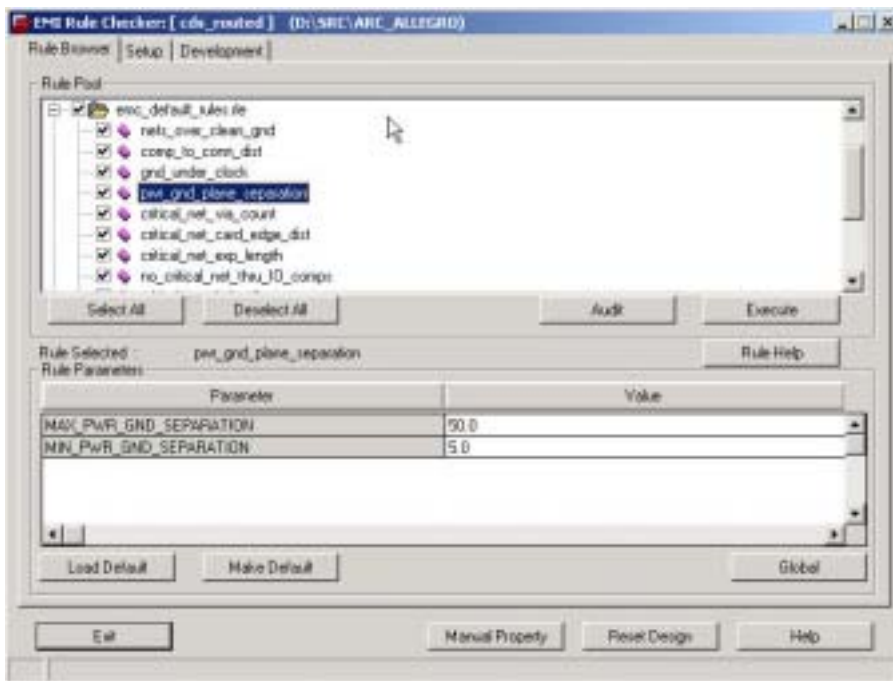

Figure 5 Select specific EMC rule sets to check against the design
- Select specific EMC rule sets to check against the design, as shown in Figure 5.